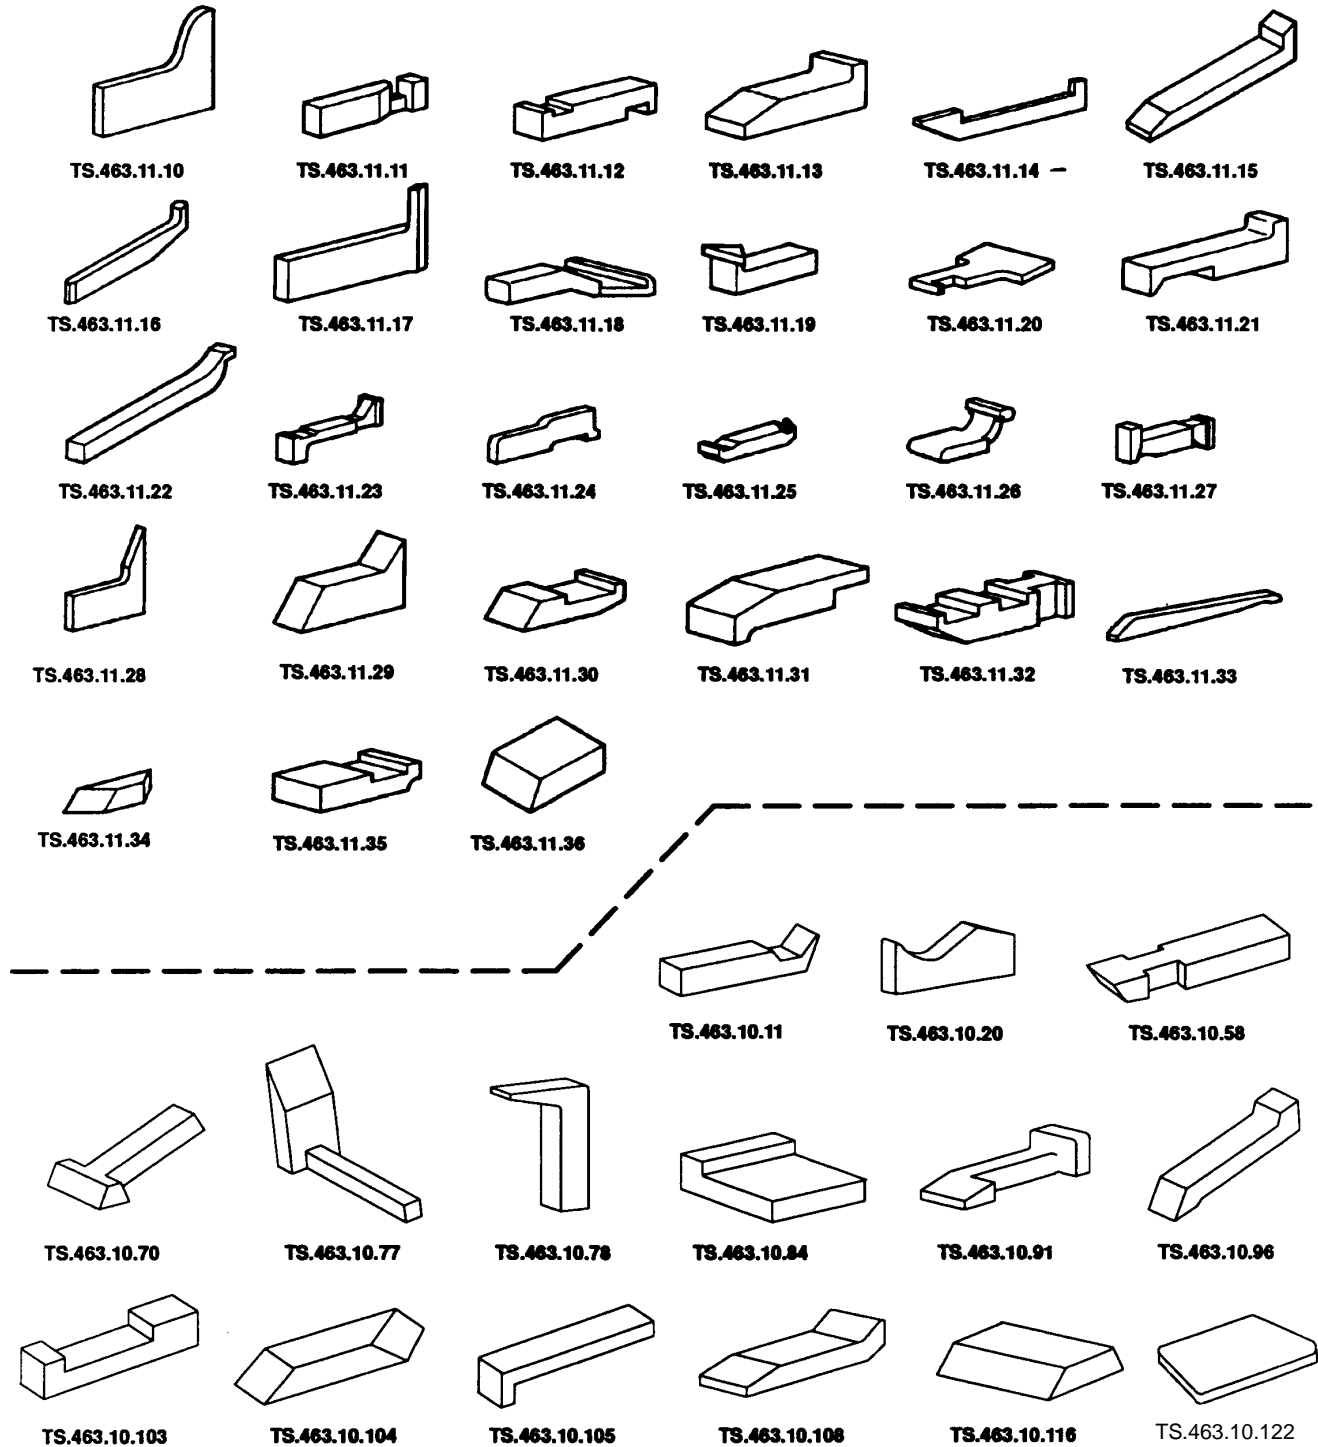

Figure 1 - Typical Bucking Bars
- 4.2.4 Bucking bars (e.g., TS.463.10.XXX and TS.463.11.XX as shown in Figure 1). Bucking bars must be of sufficient hardness to prevent marking of the bar during rivet installation.